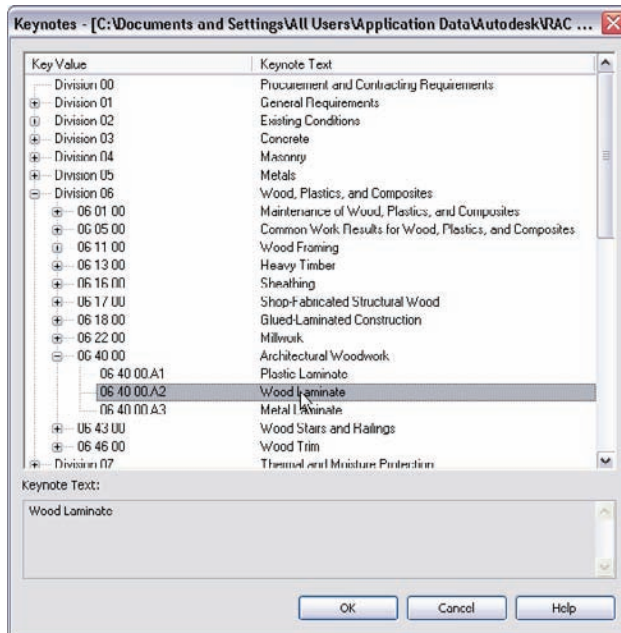

FIGURE 11.98 Finding 06 40 00.A2 Wood Laminate
7. Select 06 40 00.A2 Wood Laminate (see Figure 11.98).